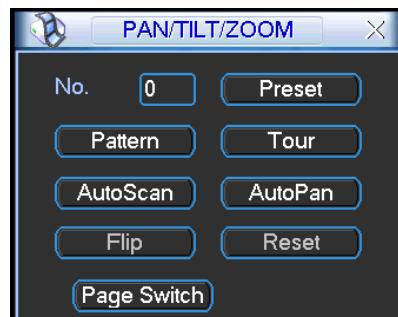
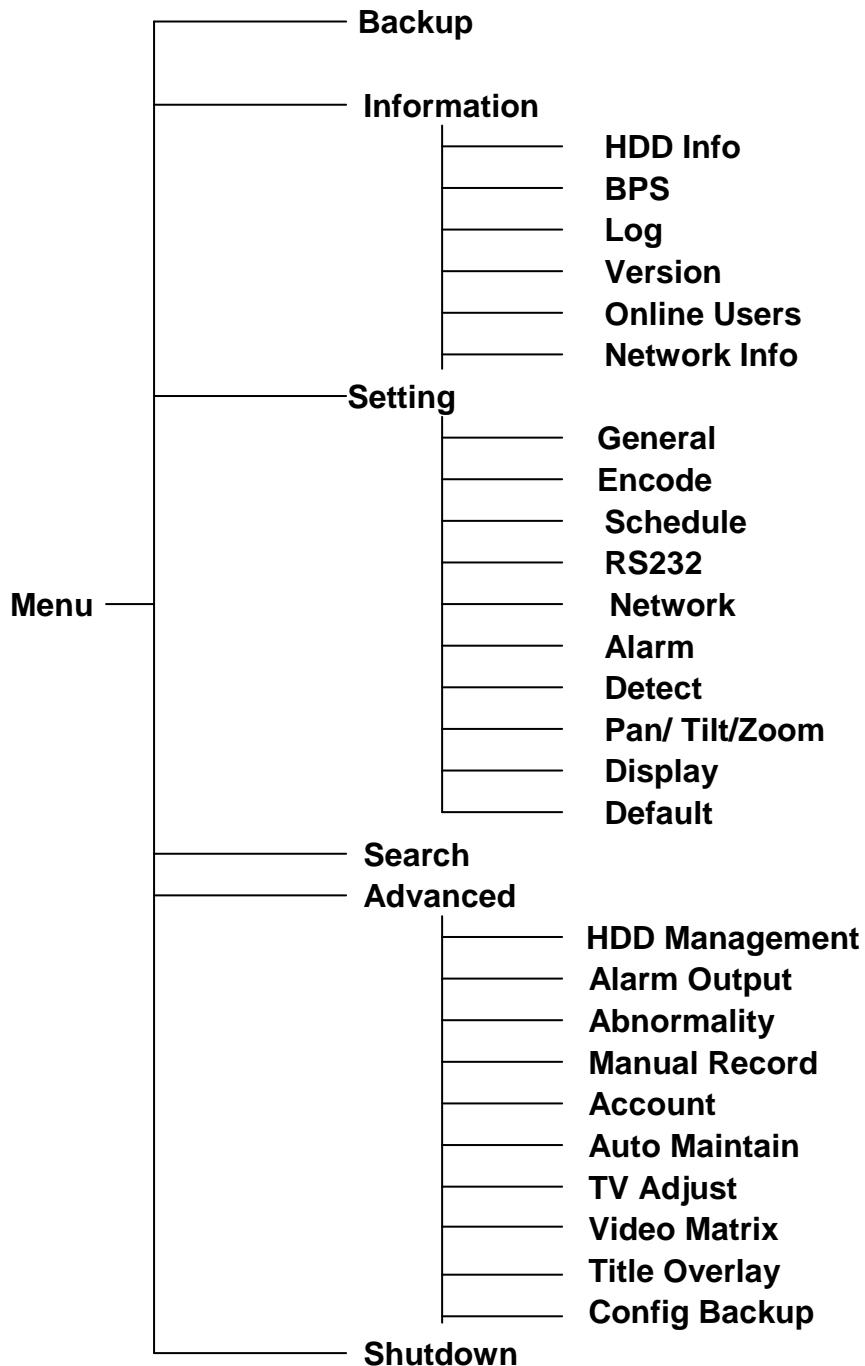

Figure 4-47
Figure 4-52
In Figure 4-43, click page switch button, the interface is shown as in Figure 4-47.
- The following setups are usually operated in the Figure 4-43, Figure 4-46 and Figure 4-47.
In Figure 4-47, please input preset number in the No. blank, and click preset button.
In Figure 4-47, click “Auto Scan” button, the system begins auto scan. Correspondingly, the auto scan button becomes Stop button. Click stop button to terminate scan operation.
In Figure 4-47, click page switch button, you can see an interface is shown as below. See Figure 4-52. Here you can set auxiliary function. The aux value has relationship with the Aux button of the decoder.